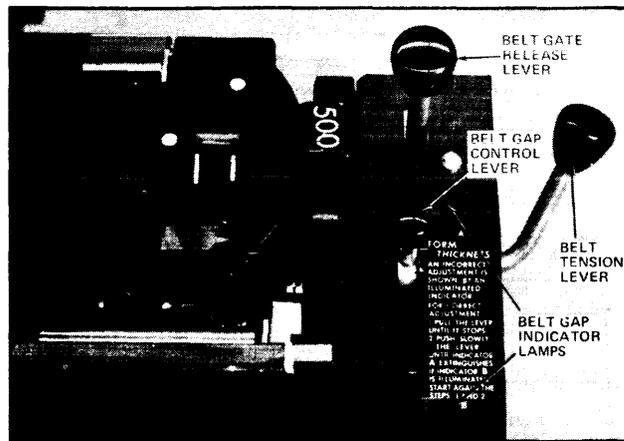

Figure C-25
12. Set paper thickness control according to paper thickness. When set correctly, both indicator lamps will be off (Figure C-25). If an indicator lamp is illuminated, move paper thickness control all the way to rear, and then slowly move it forward until indicator A is extinguished. If indicator B is illuminated, start step 12 over again.
4. Open belt gate by pulling release lever (Figure C-25).